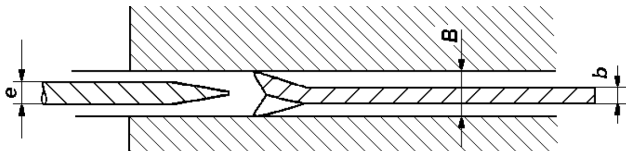

Fig. 17
1. Riving knives shall be manufactured from steel with an ultimate tensile strength of 580 N/mm^2 or of a comparable material, have flat sides (within 0.1 mm per 100 mm) and shall have a thickness less than the width of a cut (kerf) and at least 0.2 mm greater than the saw blade plate. As shown in **Fig. 17**.